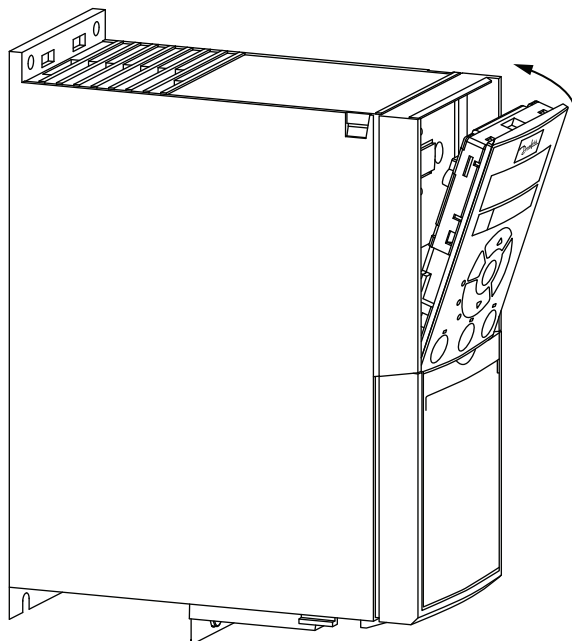

Fig. 69 — Secure Keypad in Place
2. Push the top of the VFD keypad into the variable frequency drive as shown in Fig. 69.